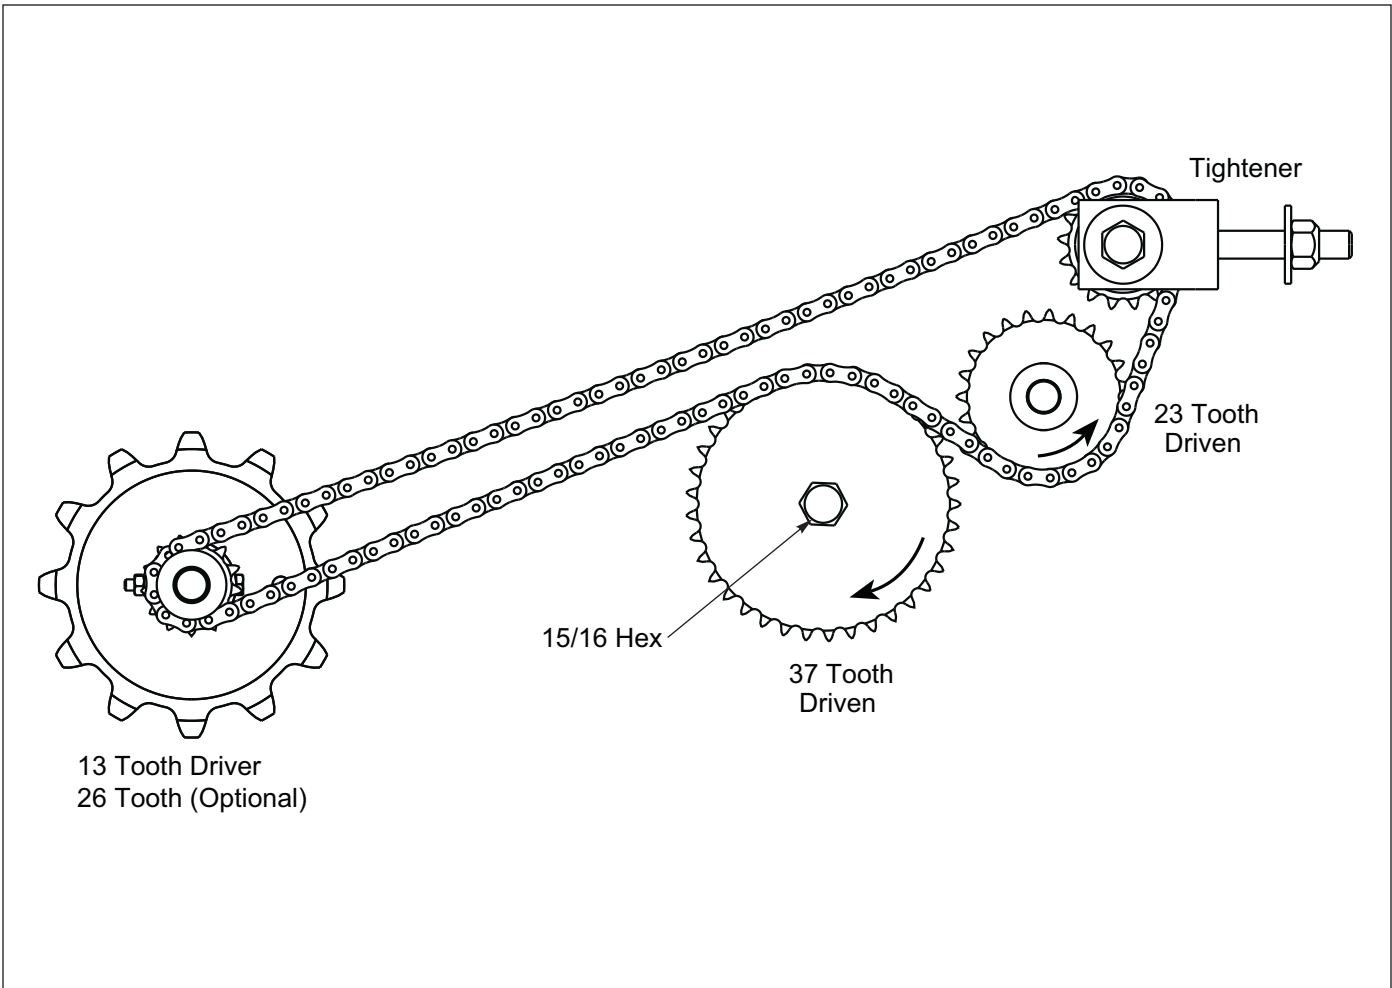

Figure 3-13: Transmission Drive
5. Turn 15/16 Hex on Transmission Shaft Clockwise (CW). See Figure 3-13.